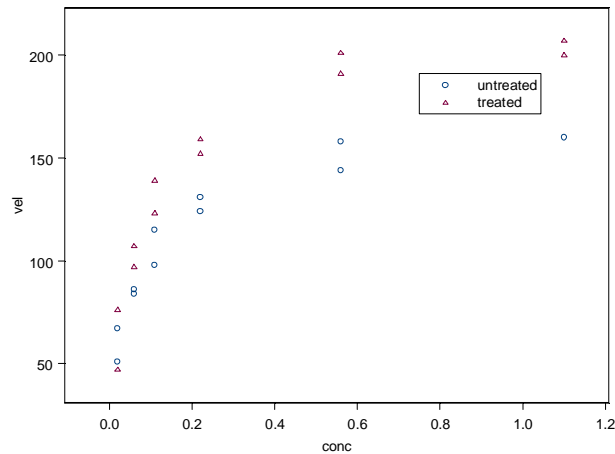

Figure 6.43: *Scatter plot of the Puromycin data.*
The data set `Puromycin` has 23 rows representing the measurement of initial velocity of a biochemical reaction for 6 different concentrations of substrate and two different cell treatments. Figure 6.43 plots velocity versus concentration with different symbols for the two treatment groups (treated and untreated).
In order to fit a nonlinear regression model, we must specify the form of the nonlinear model, the name of the data set, and starting values for the parameter estimates. Examination of Figure 6.43 suggests starting values of $V=200$ and $K=0.1$, treating all observations as a single group. We fit a Michaelis-Menten relationship between velocity and concentration as follows:
4. Figure 6.43 suggests starting values of $Vm=160$ and $delV=40$, while the previous model suggests $K=0.05$. Type the starting values $Vm=160$, $delV=40$, $K=0.05$ into the **Parameters** field.